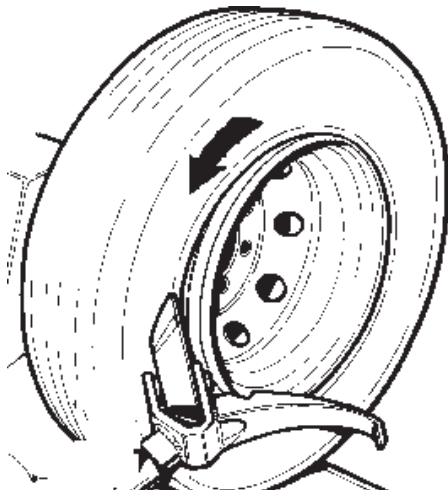

Fig. 14
1. Position the bead breaker disc as shown in Fig.14.